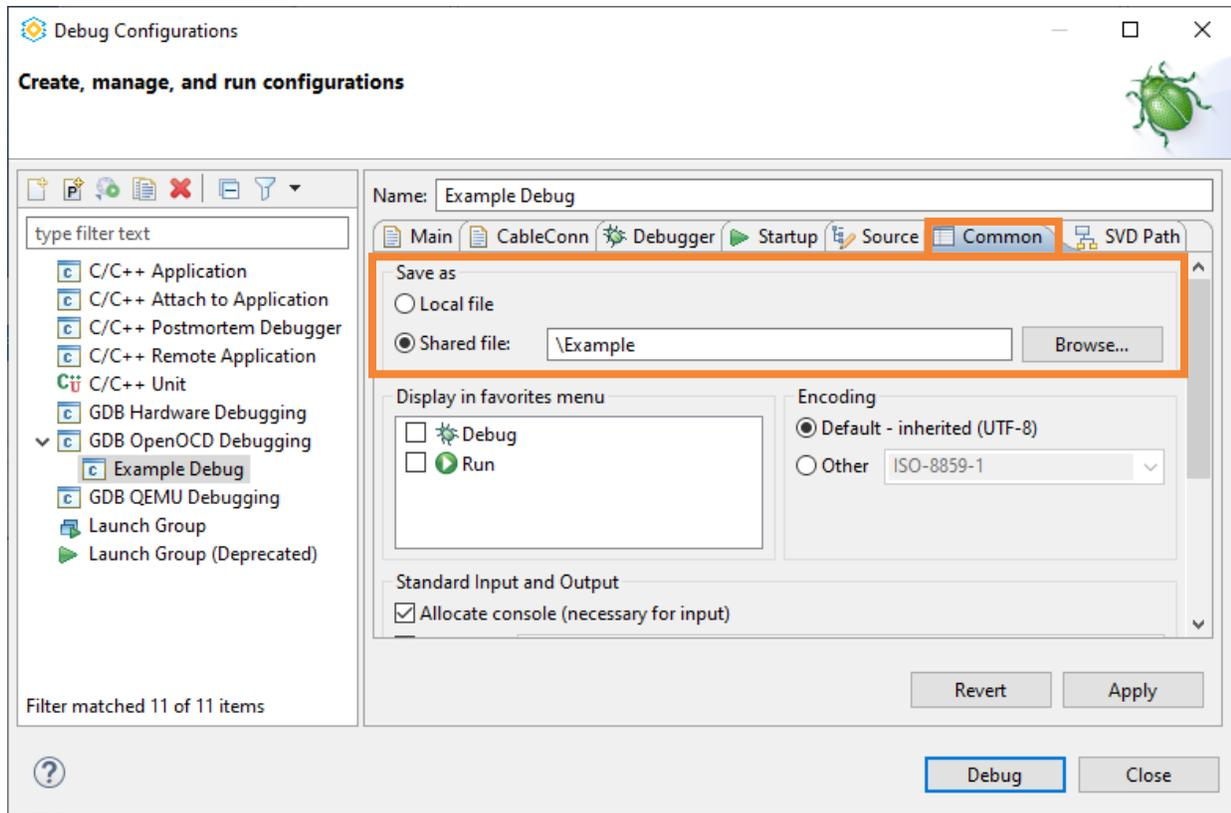

Figure 3.34. Common Tab of Debug Configurations
- (Optional) Select the **Common** tab (Figure 3.34). The **Save as > Local file** option is selected by default. This causes the debug launch configuration to be saved into the workspace.
4. Click the **Debug** button (Figure 3.34).